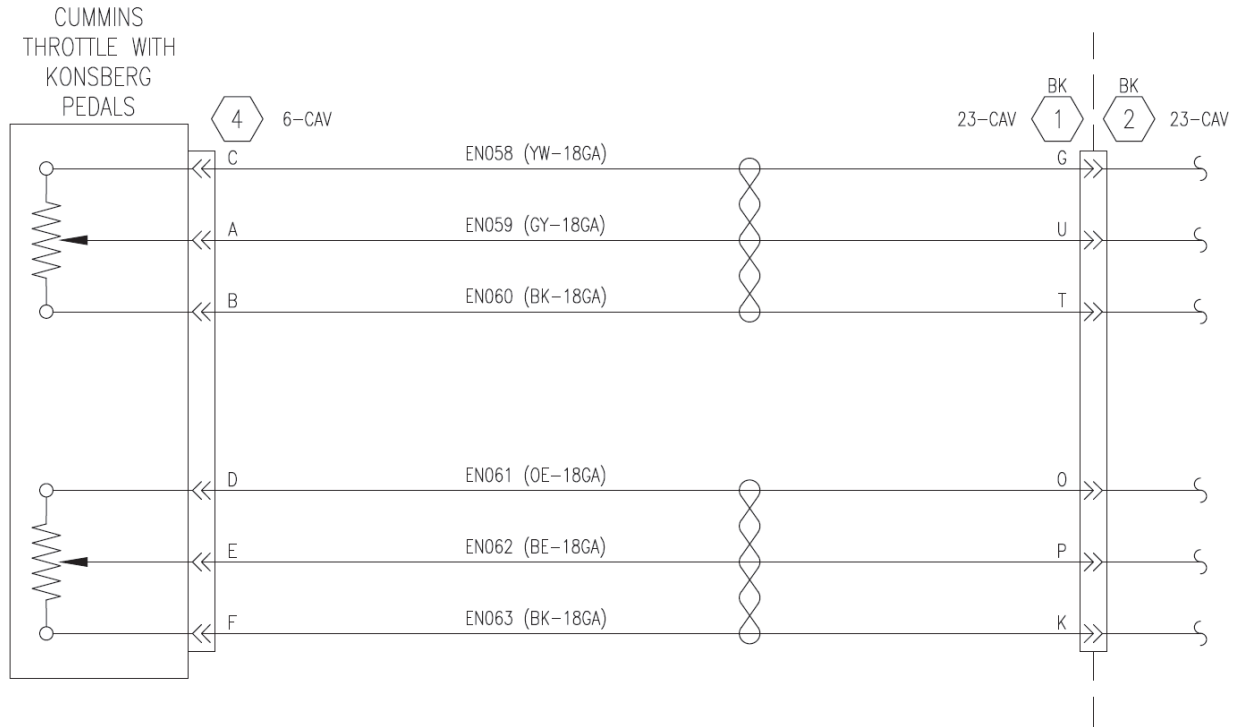

FIG. 6-1
8. Insert new circuits from new overlay harness into existing main chassis harness interconnect connector Item **1** . Refer to FIG. 5-1. Each wire is tagged with a label depicting which cavity it belongs in. Refer to FIG. 6-1. Note that the wiring/pin out does not change.
9. Re-connect main chassis harness interconnect connector, Item **1** , to firewall disconnect. Refer to FIG. 6-1.